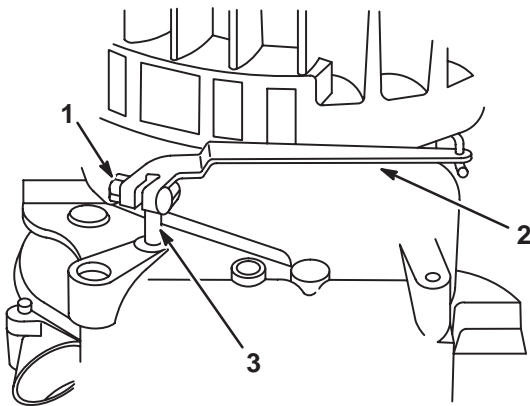

Fig. 39 – Adjusting Governor Linkage
1. Slightly loosen the governor nut, Fig. 39.